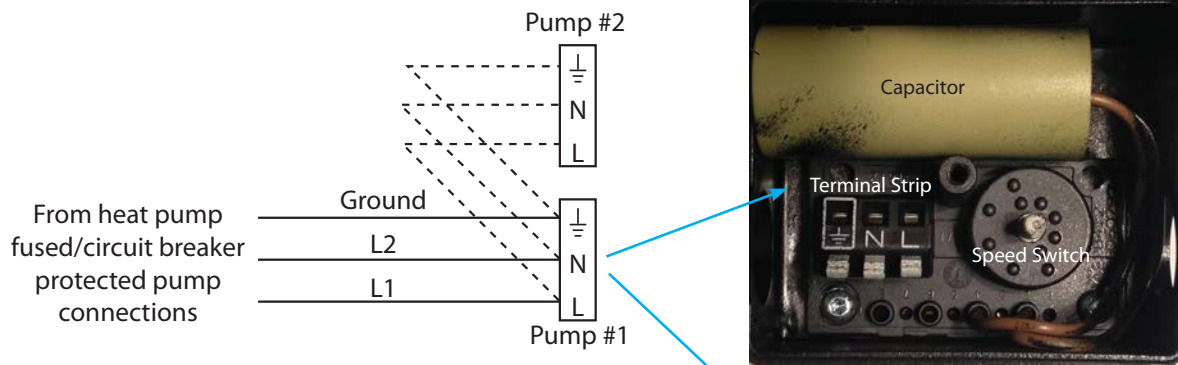

Figure 26: Pump field wiring. Top picture shows UPS26-99 control box; bottom picture shows UP26-116 control box.
1. Wire the circulator pumps to the heat pumps as shown in Figure 26. Follow all electrical and local codes for wiring and fuse/breaker sizing.